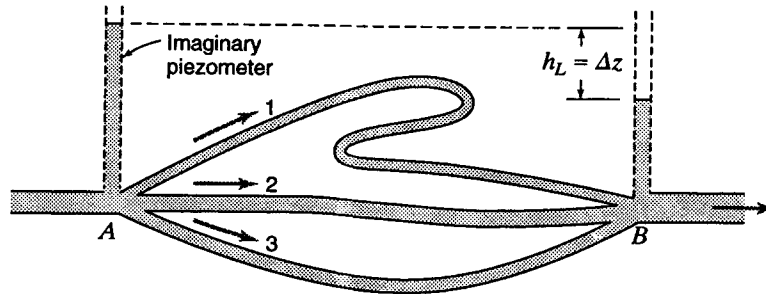

Figure 8.30
8.102 Suppose that in Fig. 8.30 pipes 1, 2, and 3 are of smooth brass as follows: 500 ft of 2-in, 350 ft of 3-in; and 750 ft of 4-in respectively. When the total flow of 70°F crude oil ($s = 0.855$) is 0.7 cfs, find the head loss from A to B and the flow in each pipe. Note: This problem can be solved without trial and error, using a basic scientific calculator only.